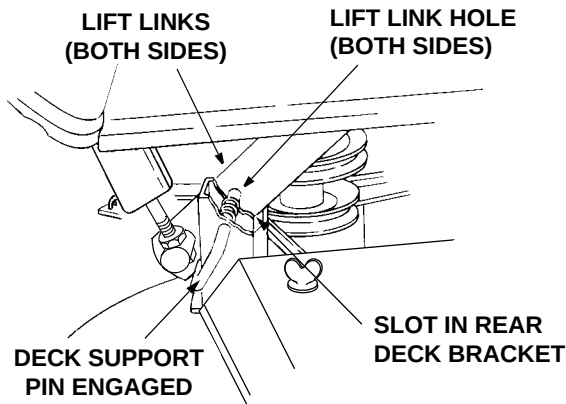

Figure 40
10. Carefully guide the tractor implement lift links (left and right) into the rear deck bracket slots (left and right) as the tractor implement lift handle is lowered to its lowest setting (Refer to Figure 40).
11. Pull both deck support pins outward and rotate rearward to disengage the outer surface of the rear deck brackets. Release the pins, making certain each deck support pin passes through the inner hole of the rear deck bracket. The spring tension will push the pins inward and, if aligned, through the hole in each implement lift link (Refer to Figure 40).